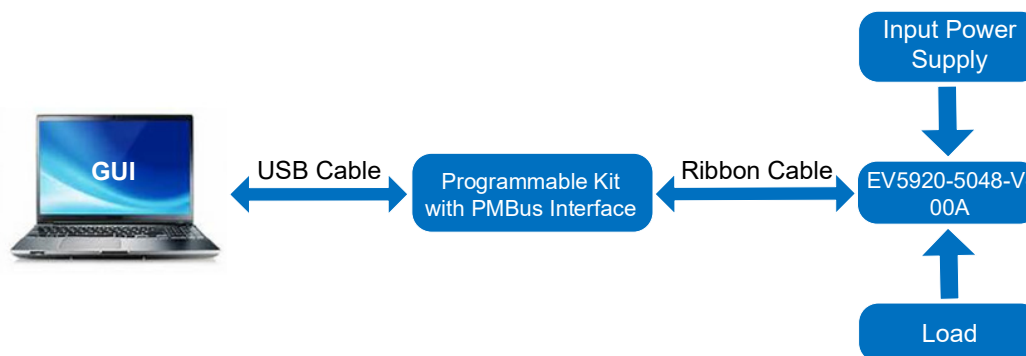

Figure 1: PMBus Connection Diagram
- Use the PMBus interface kit (EVKT-USB2C-02) to connect the EV5920-5048-V-00A to a PC (see Figure 1).